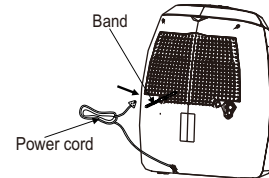

Fig. 13
- Wrap the cord and bundle it with the band(see Fig.13).